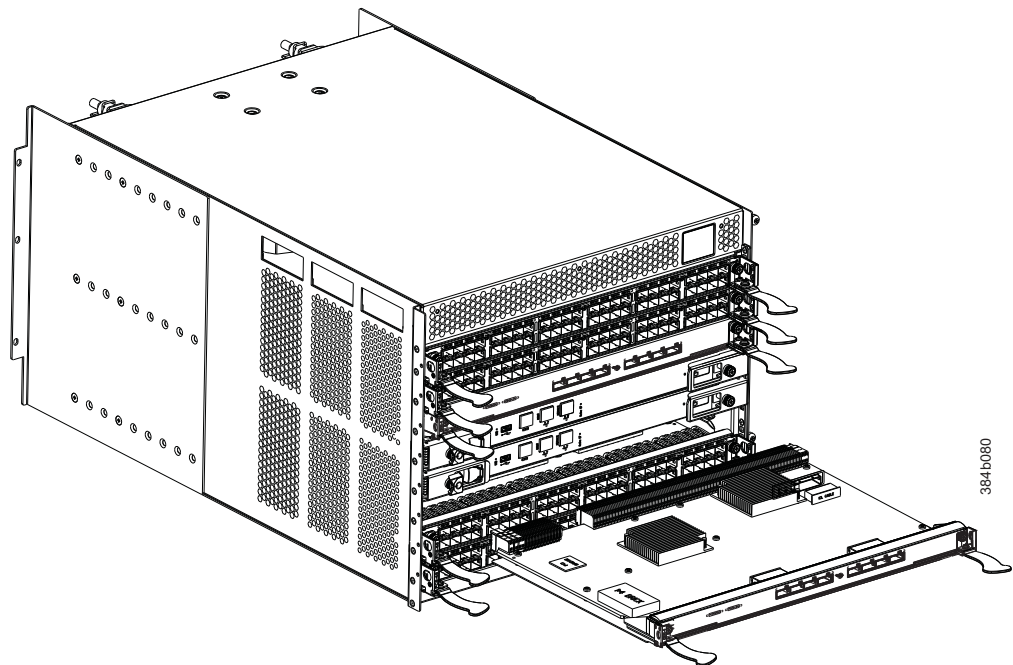

Figure 39. Removing and replacing the core switch blade
This section describes how to remove and install a core switch blade. The SAN384B-2 has two core switch blades: one in slot 3 and one in slot 6. Note that the blade shown in Figure 39 on page 88 is shown with EMI plugs installed.
4. Open the ejectors by rotating them toward the center of the blade face. Pull the blade out of the chassis using the ejectors (Figure 39).